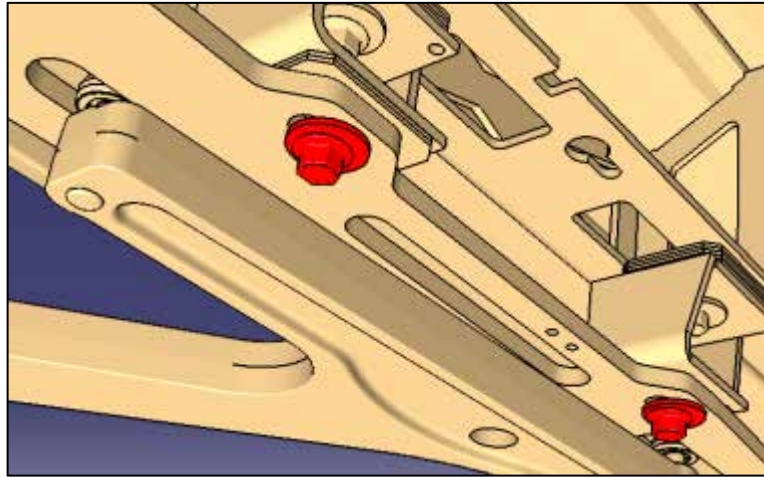

Figure 55
83. Once everything is inspected and centered, Tighten fork screws to **32 lb-ft.** (Figure 55)